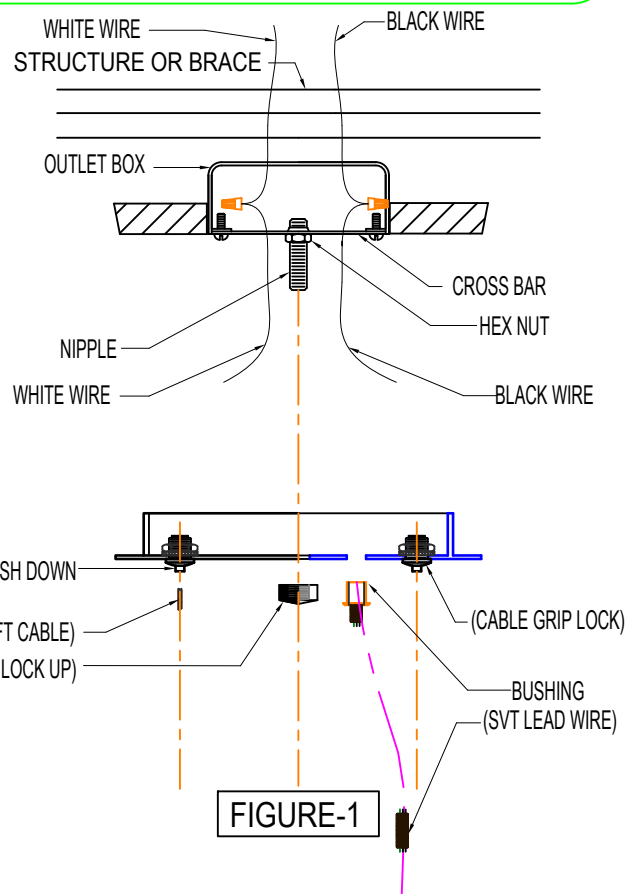

FIGURE-1
1. Insert the aircraft cable into the cable grip post of the canopy. Push the tab down on the cable grip and feed the aircraft cable. Repeat this step until you have insert all aircraft cable. (Refer Figure-1)
2. Insert the SVT wire to bushing. (Refer Figure-1)
7. Attach the cross bar to the outlet box using the mounting screws. (Refer Figure-1).
5. Attach the mounting bracket to the outlet box using the mounting screws. (Refer Figure-1).